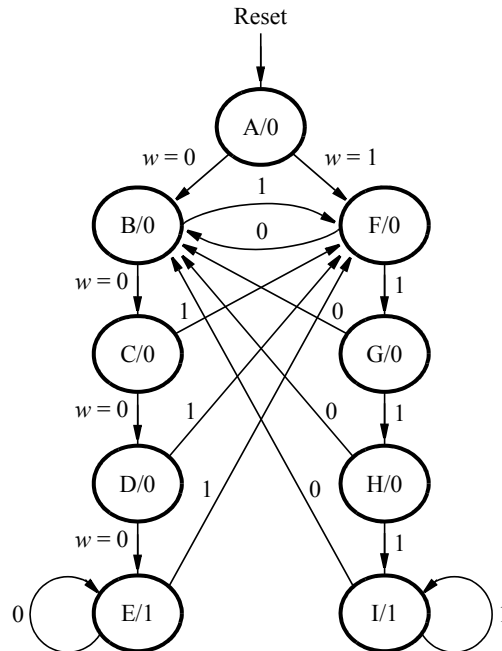

Figure 4: A state diagram for the FSM.
A state diagram for this FSM is shown in Figure 4. For this part you must to *manually* design an FSM circuit (i.e. **do not** use Verilog case statements, but create the logic and flip-flops directly) that implements this state diagram, including the logic expressions that feed each of the state flip-flops. To implement the FSM use nine state flip-flops called y_8, \dots, y_0 and the one-hot state assignment given in Table 1. Note that the one-hot state codes enable you to derive these expressions by inspection, as described in class.
In this part you will implement a similar sequence recognizer as in Part I, but you will use a different style of Verilog code, that makes it easier to create larger FSMs. You will build an extended version of the FSM in Figure 4. In this version, you are to detect the same pattern as in part I. However, you are to add one extra state called *Wait*. The FSM should go to the *Wait* state once one of the patterns is detected and stay there until an external signal, call *wait_done* is asserted. The external signal will be controlled by you using one of the switches on the DE2 board.
4. To examine the circuit produced by Quartus II open the RTL Viewer tool as described above. Double-click on the box shown in the circuit that represents the finite state machine, and determine whether the state diagram that it shows properly corresponds to the one in Figure 4 (plus your extra Wait state). To see the state codes used for your FSM, open the Compilation Report, select the **Analysis and Synthesis** section of the report, and click on **State Machines**. You must also record the size of your circuit and the number of flip-flops (also called registers) used. The size is given as the number of Logic Elements (LEs) in the Compilation Report, and number of flip-flops is given as the total number of dedicated registers. You can refer back to Figure 2 for a sample compilation report.